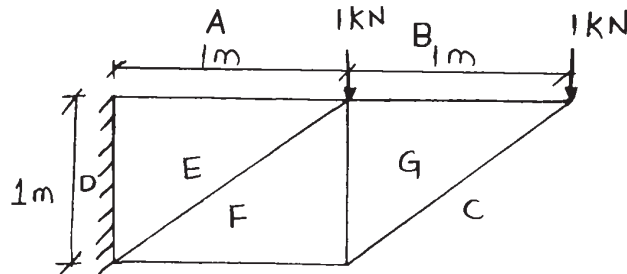

Fig. No. 6
- b) A cantilever truss is loaded as shown in Fig. No. 6. Find the stresses in members by method of joint.